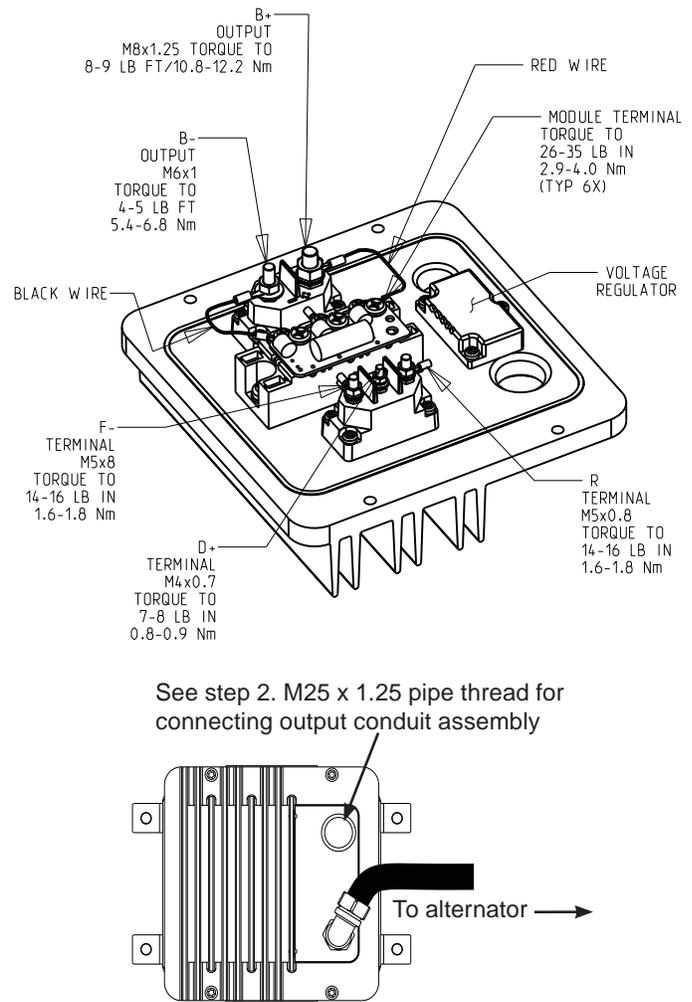

Figure 5 - A8-207 Rectifier-Regulator Cover Connections
3. Connect rectifier-regulator to alternator with wiring conduit shown in Figure 5 and 6.